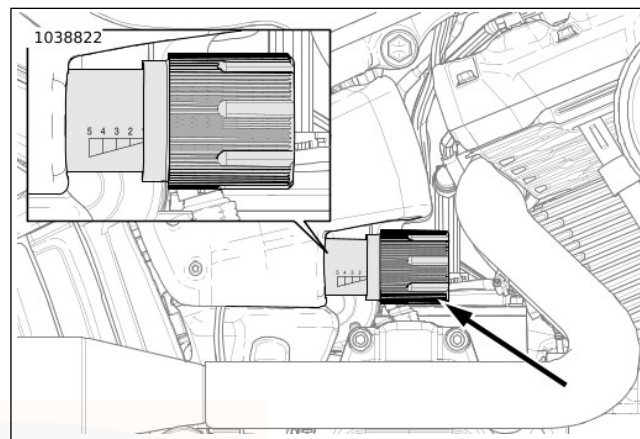

Figure 17. Preload Adjustment Knob
- b. Insert the tang of the SPANNER WRENCH KIT (PART NUMBER: 14900102) in the slots in the rear shock, turn the cam until the indicator (1) points to the appropriate preload setting (2).
2. **Hydraulic external:** See Figure 17.